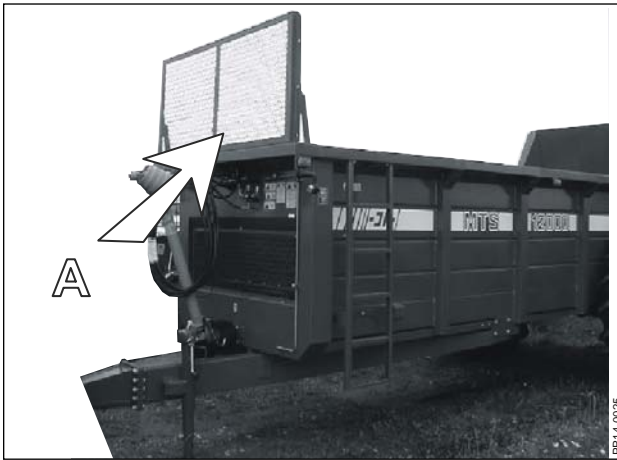

Fig. 4.1
Fig. 4.1 The front grill (A) is mounted and ensures the tractor against stones or other foreign objects being thrown out unintentionally during the operation in the field.